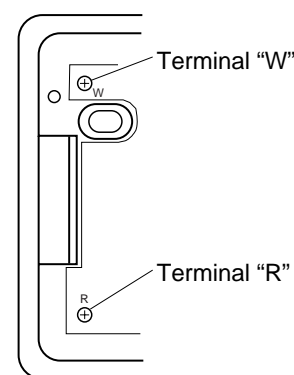

Figure 46 - Thermostat Base Terminal "W" and "R"
7. Connect one bare wire end to each terminal ("W" and "R") of the thermostat base (see Figure 46).